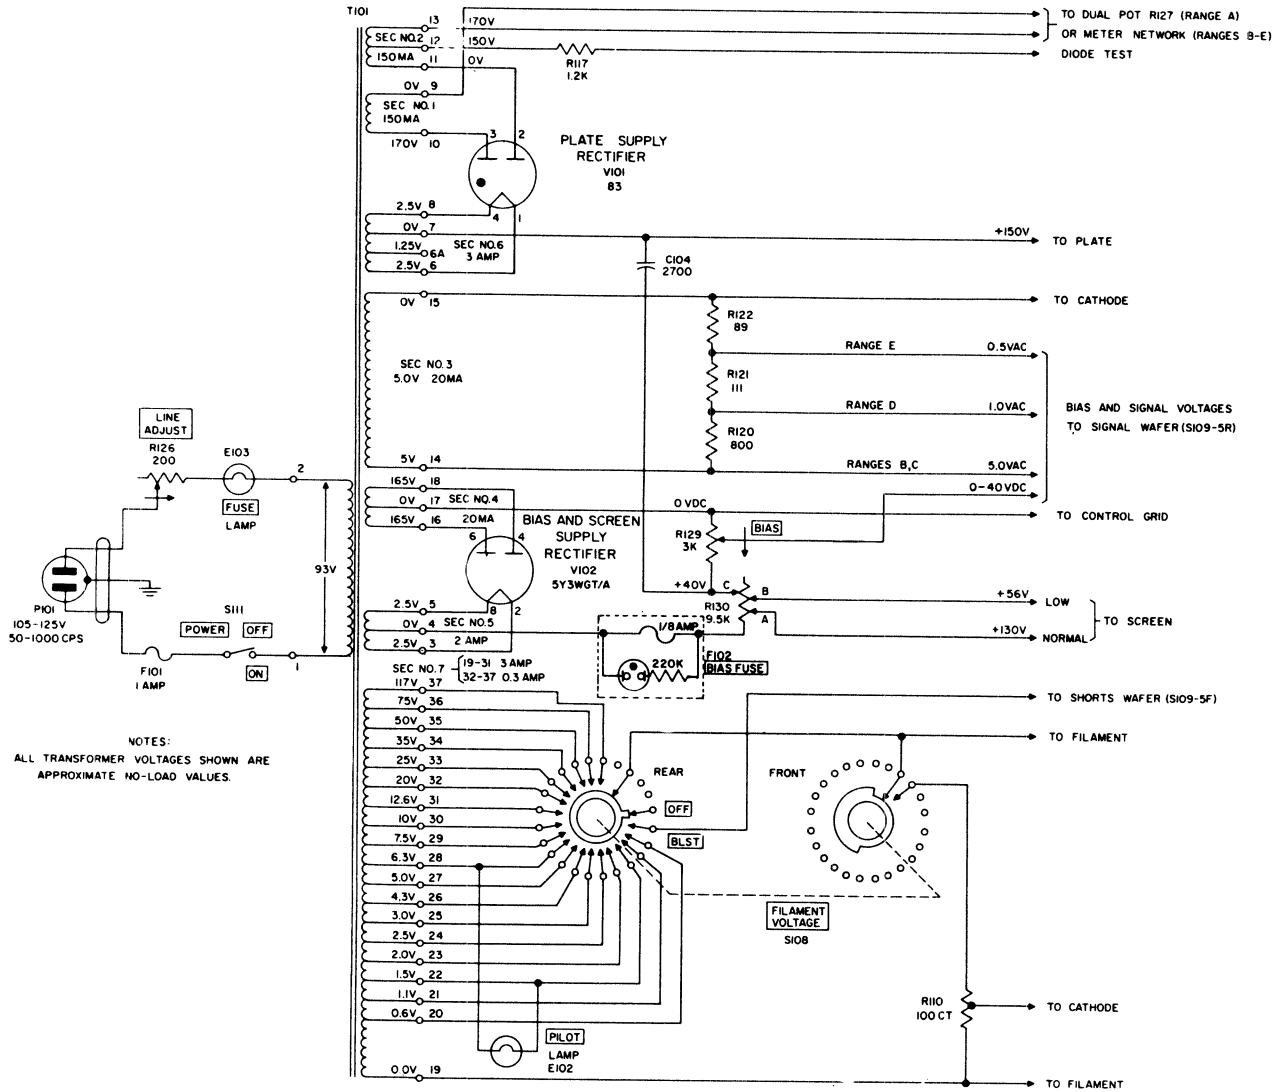

Figure 4-4. Simplified Power Supply Circuit
(See figure 4-4.)
(See figures 4-4 and 4-10).
a. Refer to figure 4-4. For mutual conductance tests on amplifier-type tubes, full-wave rectifier tube V101 supplies d-c plate voltage, full-wave rectifier tube V102 supplies d-c screen and bias voltages, transformer T101 secondary No. 3 supplies a-c signal voltage, and secondary No. 7 supplies filament voltages. FUNCTION SWITCH S109 must be set at RANGES B, C, D, or E, and red MUT. COND. pushbutton P3 must be pressed.
(1) At RANGES B, a 5-volt, a-c signal is applied to the tube under test, the entire shunt network except for range C shunt resistor R114 is connected, and the meter range is 0 to 3,000 micromhos.
(2) At RANGES C, the same 6-volt, a-c signal is applied, but range C shunt resistor R114 is inserted, the resistance of the meter shunt network is halved, and the scale is therefore doubled, or 0 to 6,000 micromhos.
(3) At RANGES D, resistor R114 is disconnected, and signal voltage applied from the junction of resistors R120 and R121 (see figure 4-4) provides 20% (200/1000) of the original value, or 1 vac. Reducing the signal by a factor of five increases the original B range of the meter by the same factor to 5 x 3,000, or 15,000 micromhos.
(4) At RANGES E, resistor R121 is shorted out, and signal voltage tapped from the junction of resistors R120 and R122 is approximately 10% (89/889) of the original value, or 0.5 vac. Accordingly, meter range B is increased, by a factor of 10 x 3,000, or 30,000 micromhos.